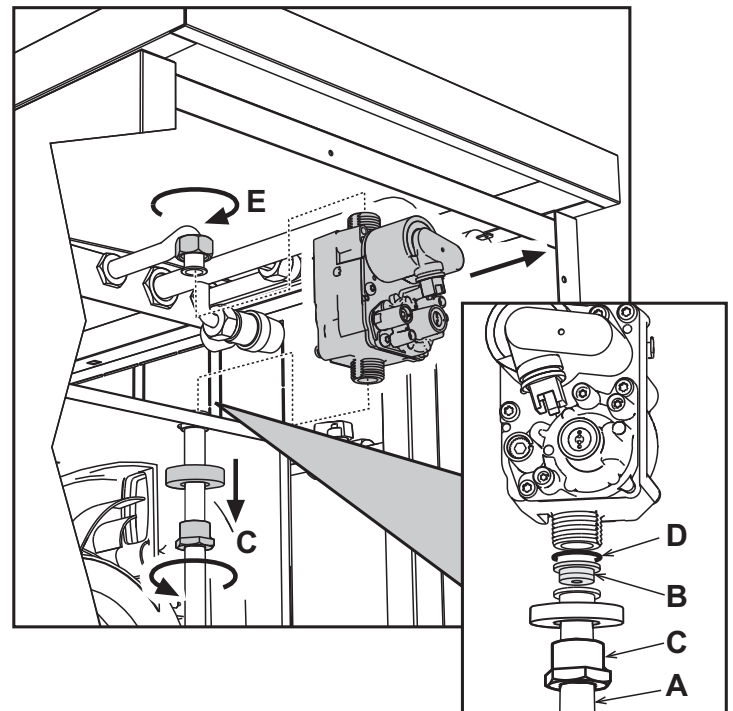

fig. 23
4. Unscrew the ring **C** and **E** and remove the gas valve (see fig. 23).
5. Replace nozzle **B** inserted in the gas pipe with that contained in the conversion kit, interposing seal **D** (see fig. 23).